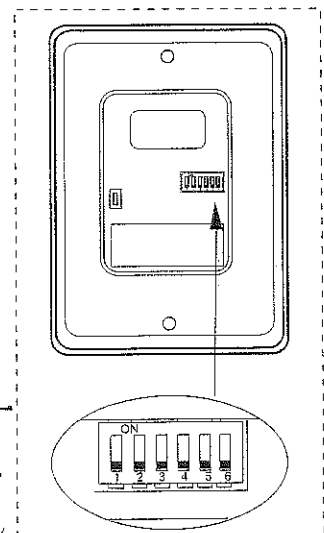

Figure 4
1. Slide the code switches to your choice of ON or OFF positions. FACTORY SETTING IS ALL "OFF". (see figure 4)